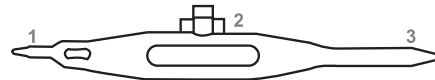
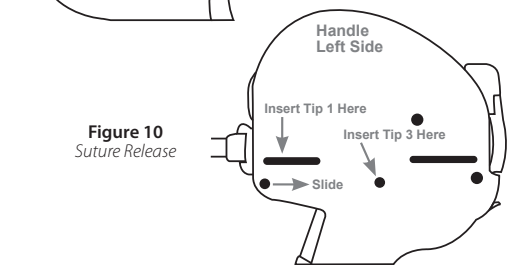

Figure 8
Figure 10
- 5.1.1 If needle does not retract, insert Tip 2 of Handle Release Tool (**Figure 8**) into hole on right side of case (**Figure 9**). Tip 3 should point towards Retraction Lever. While still inserted, turn and hold Handle Release Tool clockwise with light finger pressure, approximately 5-10 degrees, and gently squeeze the Retraction Lever.
- 5.2.1 If it is desired to cut the monofilament suture without delivering Urethral End-Piece, Insert Tip 3 of Handle Release Tool (**Figure 8**) into hole on left side of case (**Figure 10**).
- 5.2.2 If the suture is not fully cut in Step 5.2.1, insert Tip 1 of Handle Release Tool (**Figure 8**) into the groove on the front left side of the case and slide the tool from front to back (**Figure 10**).